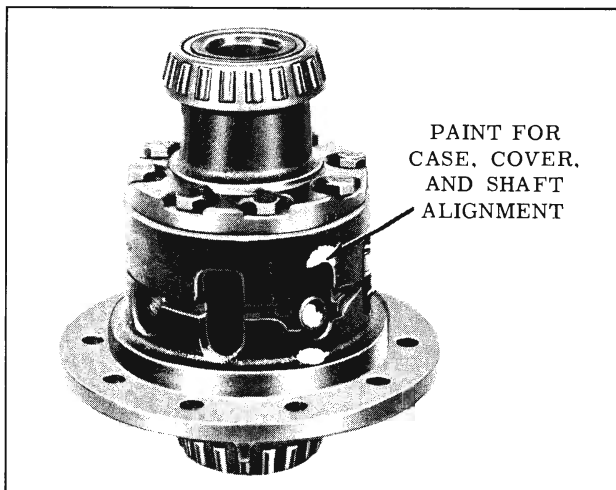

Fig. 6-115 Anti-Spin Case Assembly Alignment
2. Mark case and cover with a center punch or paint to provide alignment when assembling. If cross shafts are to be reused, see that they have a paint daub on one end of each shaft matching a similar paint daub on the case to assure assembly in proper location. (Fig. 6-115)